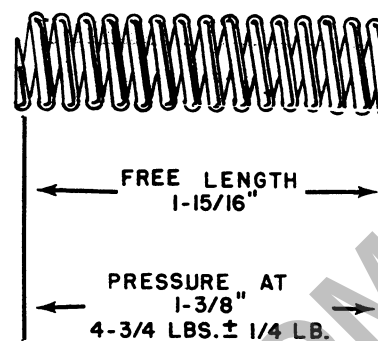

Figure 54 - Relief Valve Spring
3. Check relief valve spring with specifications shown in Figure 54. The relief valve is set to maintain pressure of *28 to 32 P.S.I. pressure on instrument panel oil gauge.
Do not place washer under retainer cap to increase oil pressure. Replace the relief valve spring with one conforming to specifications shown in Figure 54.